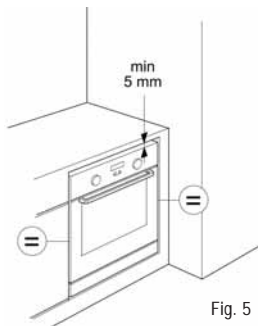

Fig. 5
- Install the oven taking care that the walls do not come into direct contact with the adjacent units (Fig. 5).
- With ovens installed under worktops, there must be a ventilation slot of at least 5 mm between the upper edge of the oven and the lower edge of the worktop (Fig. 5). **Do not obstruct this slot in anyway as this could effect working appliance.**